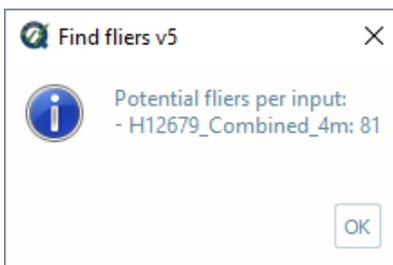

Fig. 2.4: The output message at the end of **Flier finder v5** execution.
- Click **Find fliers v5**. After executing, the output window opens automatically (Fig. 2.4), and the results are shown: